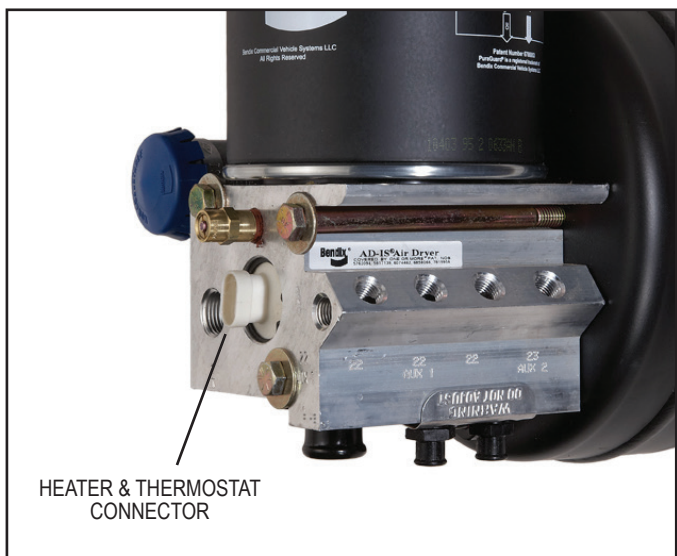

FIGURE 5 - AD-IS® AIR DRYER HEATER AND THERMOSTAT CONNECTOR
B. Thermostat and Heater Operation (Refer to Figure 5). **Note:** These tests can only be conducted during cold weather operation. Turn off the ignition switch and cool the thermostat and heater assembly to below 40°F. Using an ohmmeter, check the resistance between the electrical pins in the air dryer connector half. The resistance should be 1.5 to 3.0 ohms for the 12 volt heater assembly and 6.0 to 9.0 ohms for the 24 volt heater assembly. Warm the thermostat and heater assembly to approximately 90°F and again check the resistance.